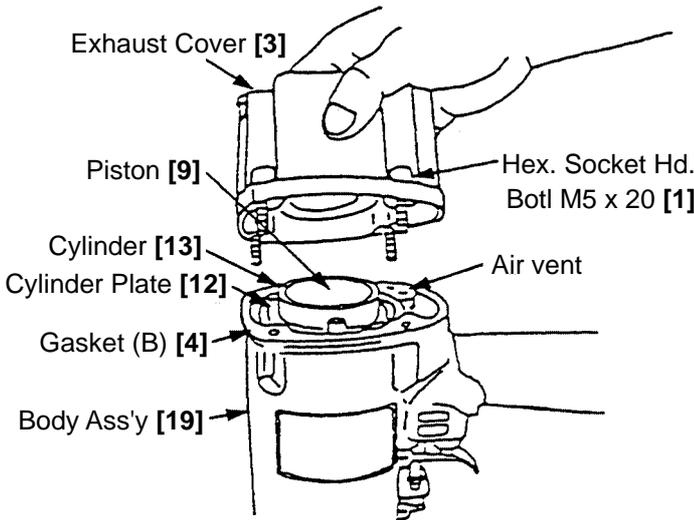

Fig. 11
(a) Disassembly (Refer to Figs. 11, 12 and 13.)
- Next, as illustrated in Fig. 11, screw the two previously removed Hex. Socket Hd. Bolts M5 x 20 [1] into the provided holes on the Cylinder Plate [12]. Gripping these two bolts, simultaneously turn and pull upward to remove the Cylinder Plate [12], the Cylinder [13] and the related parts.